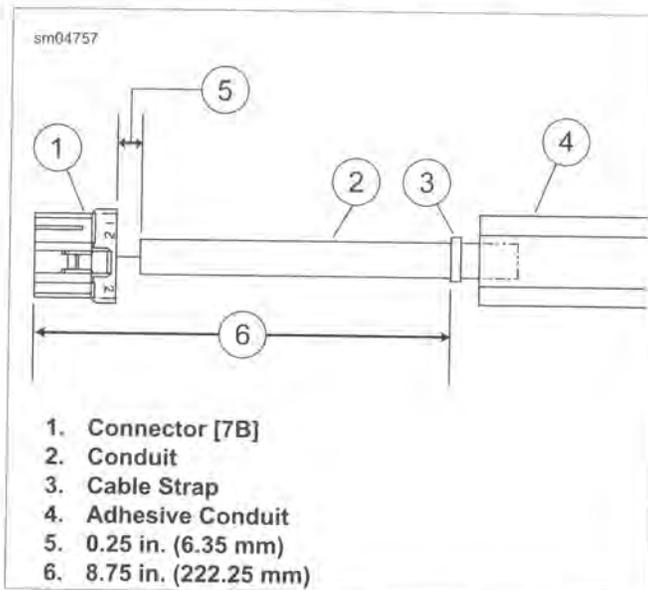

Figure 7-22. Install Cable Strap on Conduit
- a. Verify cable strap (3) is installed as shown in Figure 7-22 to prevent rearward movement of the harness.
- b. Draw harness through **new** conduit until progress is halted by installed cable strap (3).